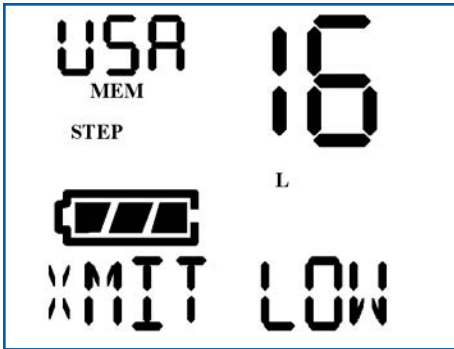

Fig. 9c: Low Power Display
- When Low Power is selected, the Radio Status Display will show **XMIT LOW** for three seconds and the **L** indicator will show. (Fig. 9c)